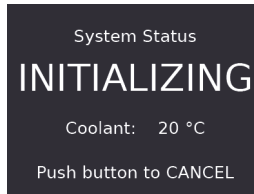

Figure 4-7 Initializing screen
- To activate the Cooler, press the **MODE** button. The system initialization begins, and the indicator blinks green (see Figure 4-7 on page 144).